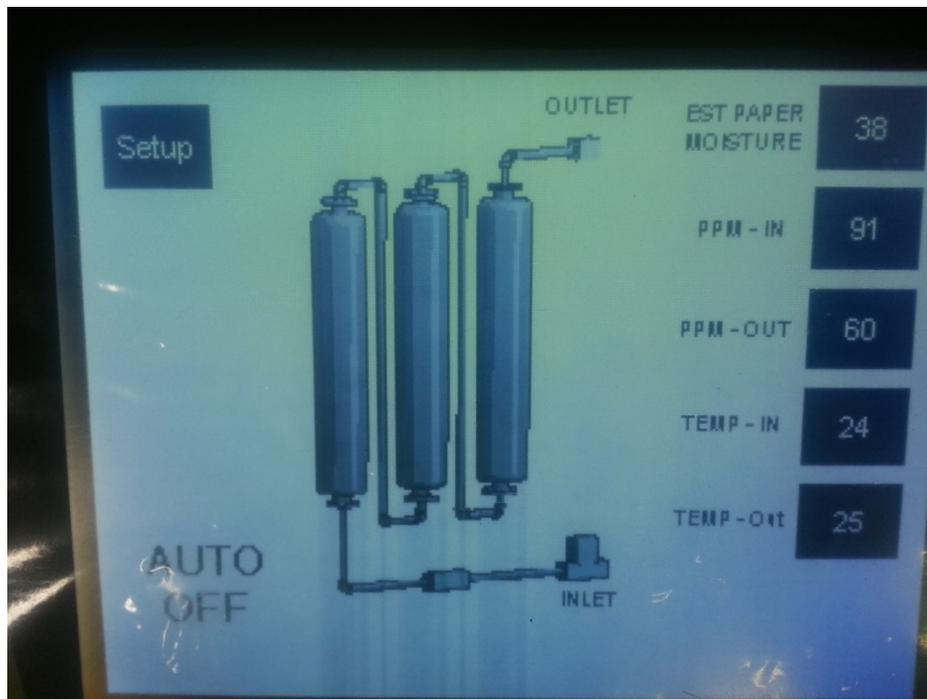
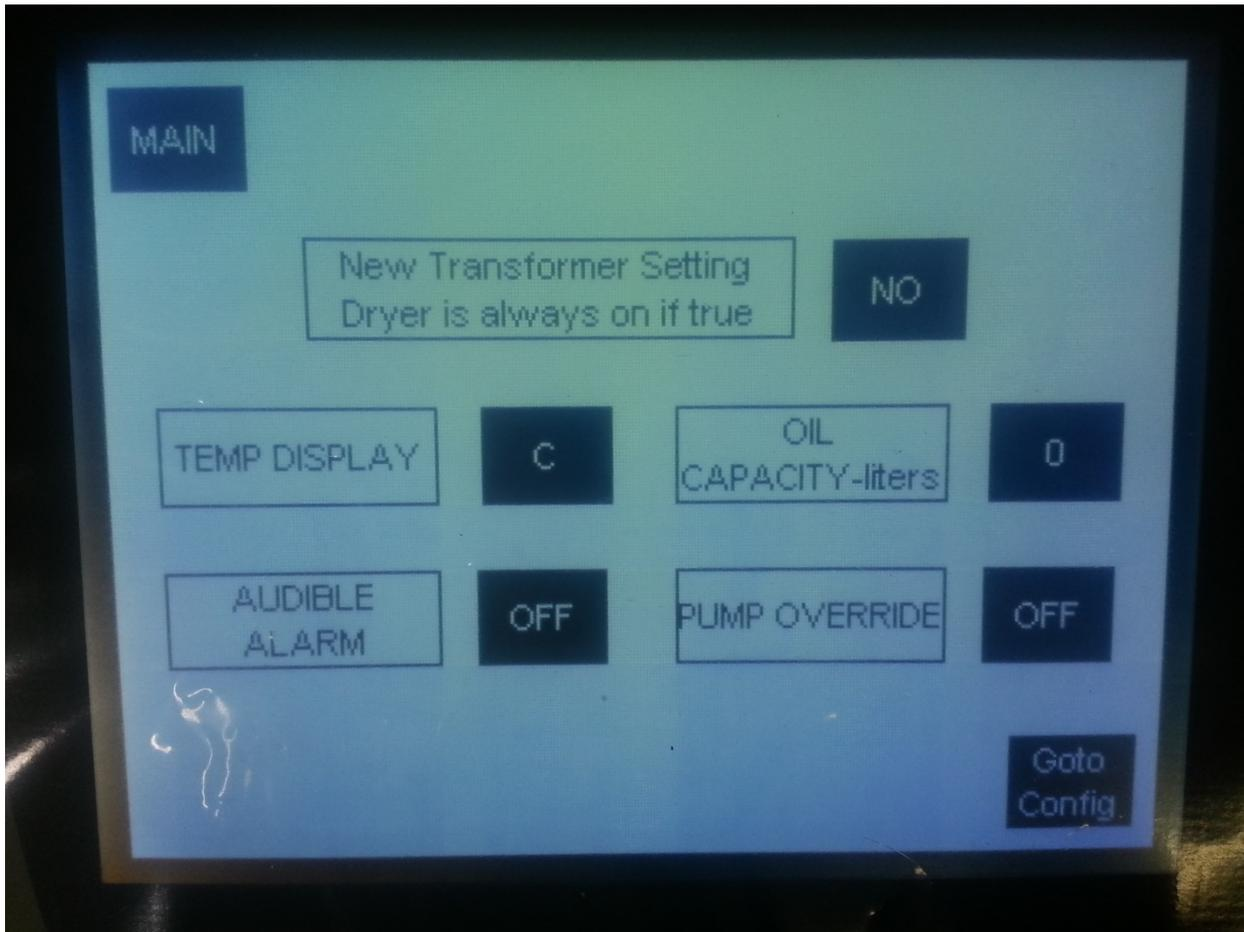

Figure 8: DryKeep main screen display when system is in operation
Figure 9: Setup screen
- 11) The system is running properly when the screen in Figure 8 is shown on the display.
- 12) Pushing setup on top left of main screen (see Figure 8) brings up the settings display as shown in Figure 9 below. At this point,
- 13) Push "MAIN" to return to the normal operating screen shown in Figure 8.